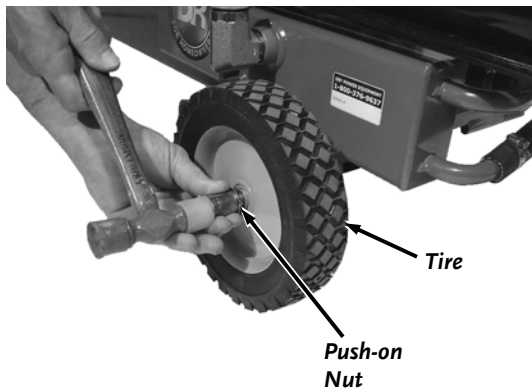

Figure 12
2. Install a Push-on Nut and tap it in place (hammer) (**Figure 12**). Repeat the process for the other wheel.